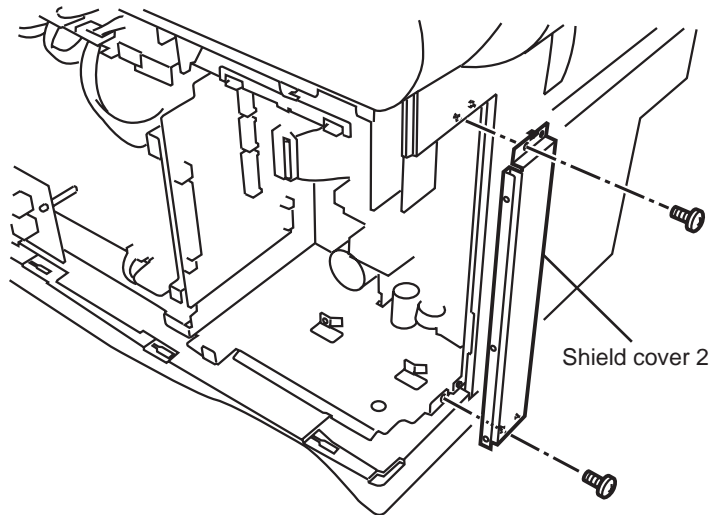

Figure 5-52 Preparations for Installation 3
- (1) Refer to Figure 5-52 and bend cables 1 and 2 as shown in order to make insertion of the kit easier.
- (2) Insert cables Cable 1 and Cable 2 into J701 and J700 on the kit.
- (3) Insert the kit, aligning the tabs with the slots on the main unit.
- (4) After inserting the kit, insert connectors J701 and J700 into J37 and J39 on the TWINS board.
- (5) Fasten the kit in place with the 2 screws (A-screws) which were used for the shield cover 2, then secure the 2 included screws (B-screws).